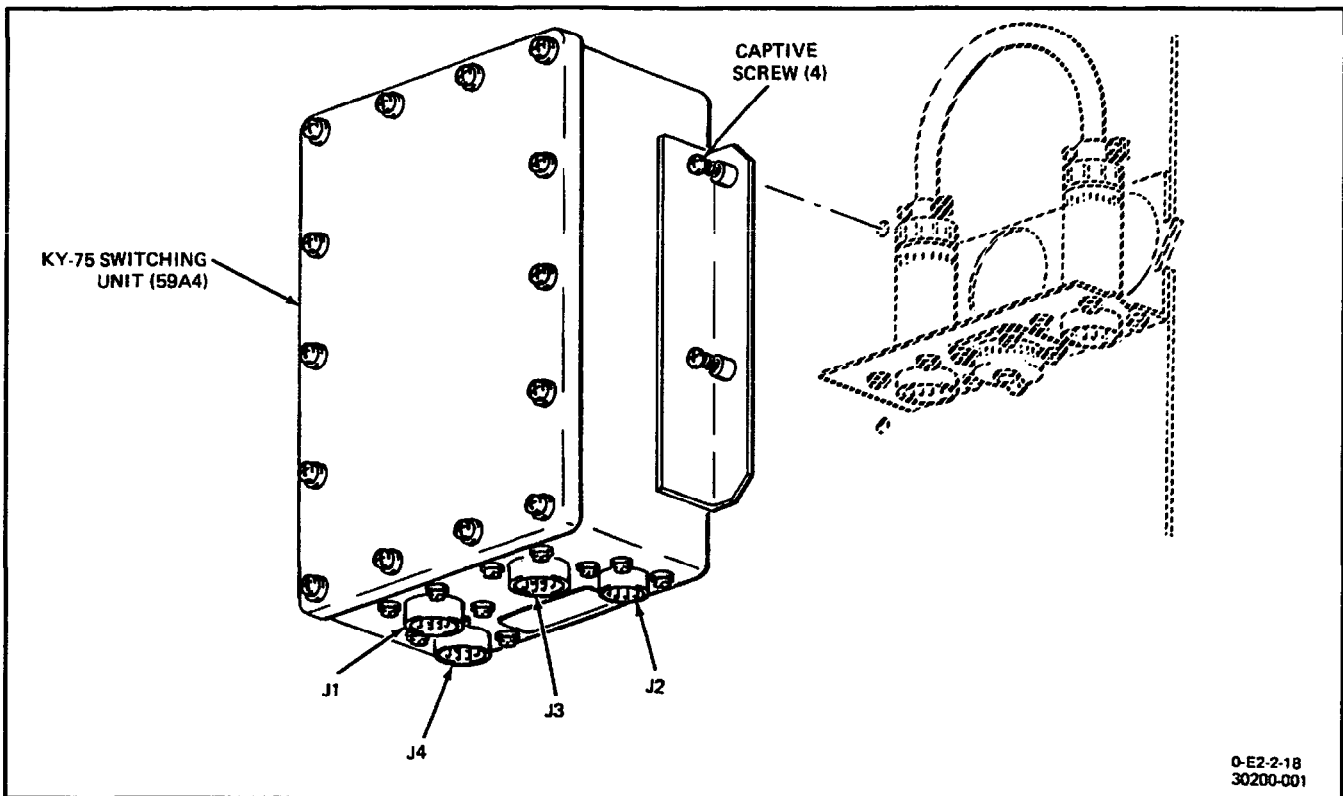

Figure 1. Removal and Installation of KY-75 Switching Unit
**3. REMOVAL.** (Figure 1.)
4. **INSTALLATION.** (Figure 1.)